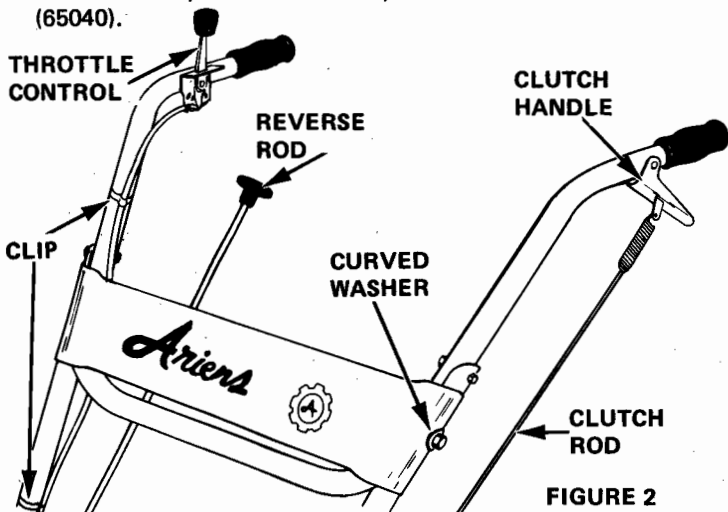

FIGURE 2
a. Pass the threaded end of the reverse operating rod (2057) up through the hole in the handlebars. Screw the shift ball (75015) in place onto the end of the rod. See Figure 2.
a. Hook the spring, at the end of the clutch rod (83008), through the hole provided on the underside of the clutch control lever mounted on the handlebar. See Figure 2.
Using the two self-tapping screws (74001) provided, fasten the throttle control to the inside of the right hand handlebar. Use the two clips (69012) to hold the conduit to the handlebars. Place one clip on the upper handlebar and one on the lower end of the lower handlebar, See Figure 2.